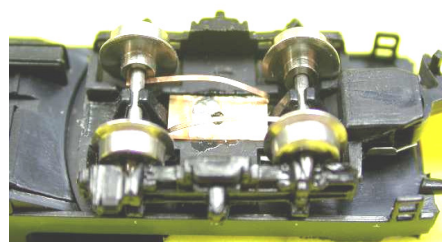

figure 7: Right bogie: **both** axles with the uninsulated side facing upwards.
11. For running your trains properly, the right polarity is very important. Axles built in the wrong way cause short circuits with high currents that can destroy the fine current collector springs. An axle of a 4-axle wagon is built in correctly if in one bogie both axles are built in the same way. In this case you can see the uninsulated side of the wheel, so the pure metal wheel, at the upper edge, figure 7. In the other bogie the axles then have to be built in exactly the opposite way. Remember this well, it is very important for running your trains properly and avoiding major damages.